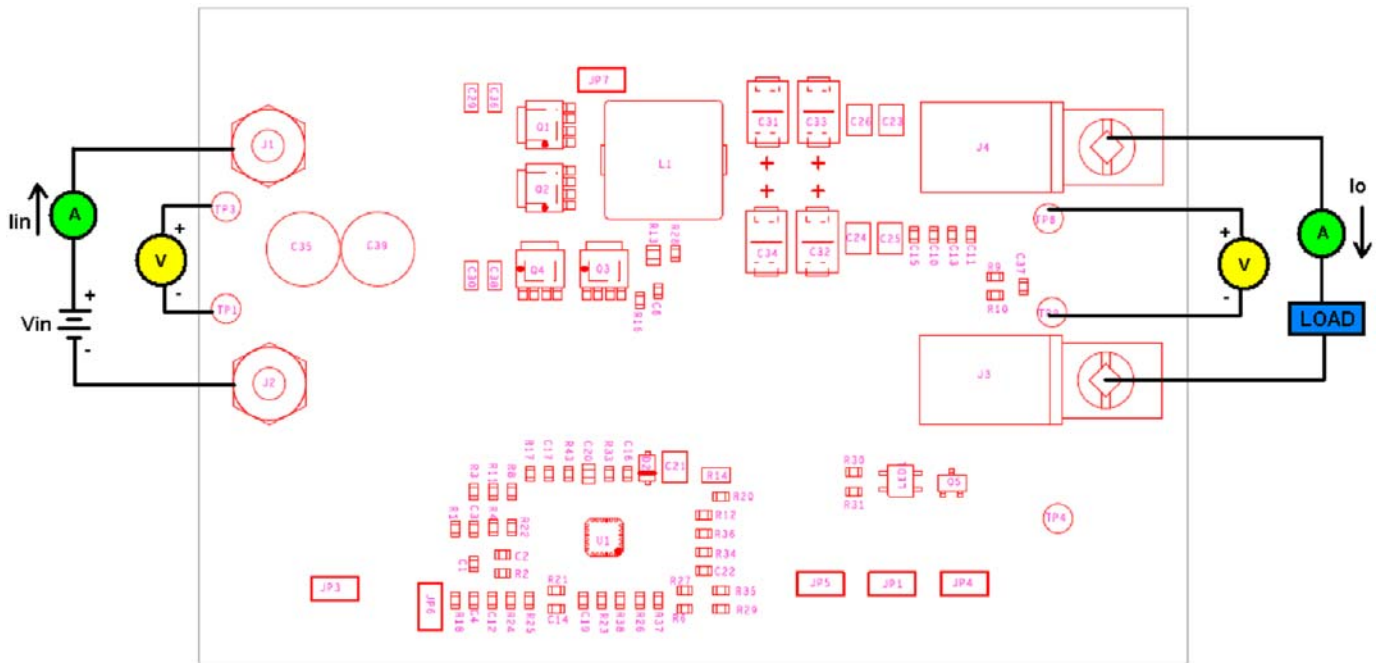

FIGURE 2. ISL8115EVAL1Z TEST SET-UP
1. Ensure that the Evaluation board is correctly connected to the power supply and the electronic load prior to applying any power. Please refer to Figure 2 for proper set-up.